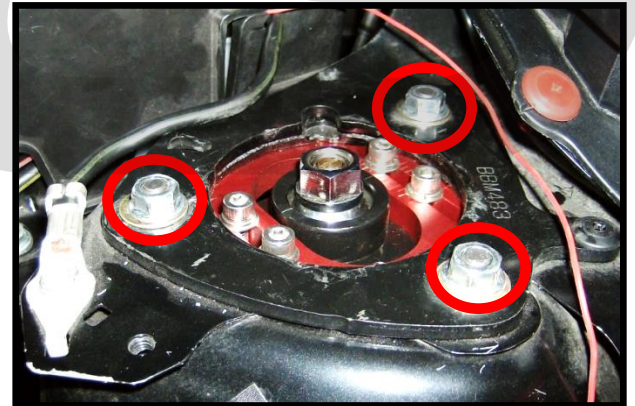

Figure 5b
b) Install the provided 14mm nuts. Shown with red circles in Figure 5b. Torque to 30ft-lbs.